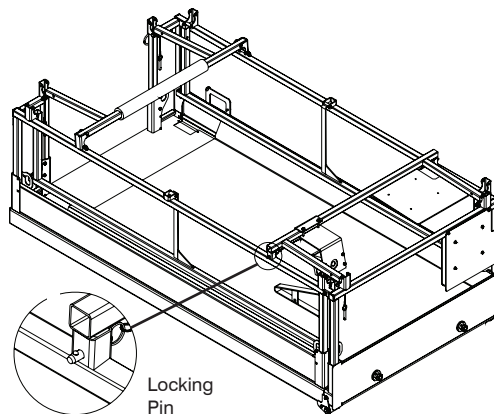

Figure 2-17b. All Guardrails Folded Down
7. Lock in place on the mounting post using the locking pin (refer to Figure 2-17b). Ensure that the detent ball of the pin is all the way through.